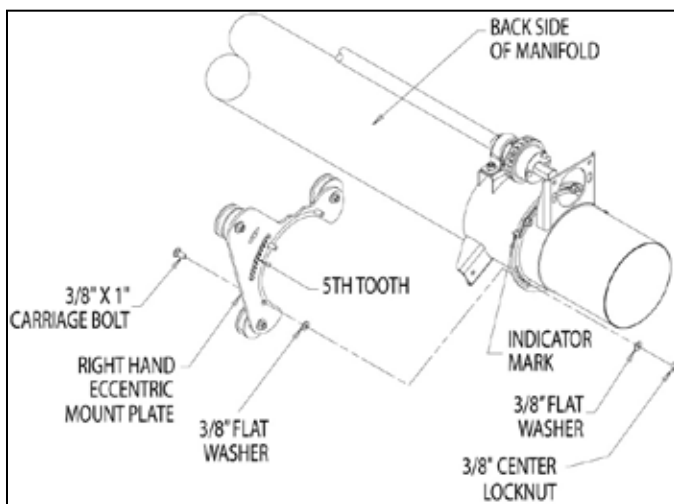

Figure 10, Eccentric mounting plate (right hand shown)
- Assemble the RH & LH Eccentric Mount Plates (with the nylon rollers facing to the center of the manifold) to the RH & LH End clamps using six 3/8" X 1" carriage bolts, twelve 3/8" SAE flat washers and six 3/8" center locknuts. Do not tighten yet (Figure 10).